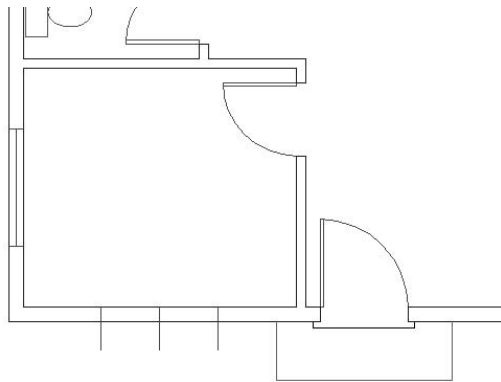

FIGURE 7.22: Guidelines for the pair of window blocks
3. Offset the line that you just drew 2' to the right and left (see Figure 7.22). Now you have established the locations for the insertion points of the win-1 blocks, and you are ready to insert them.